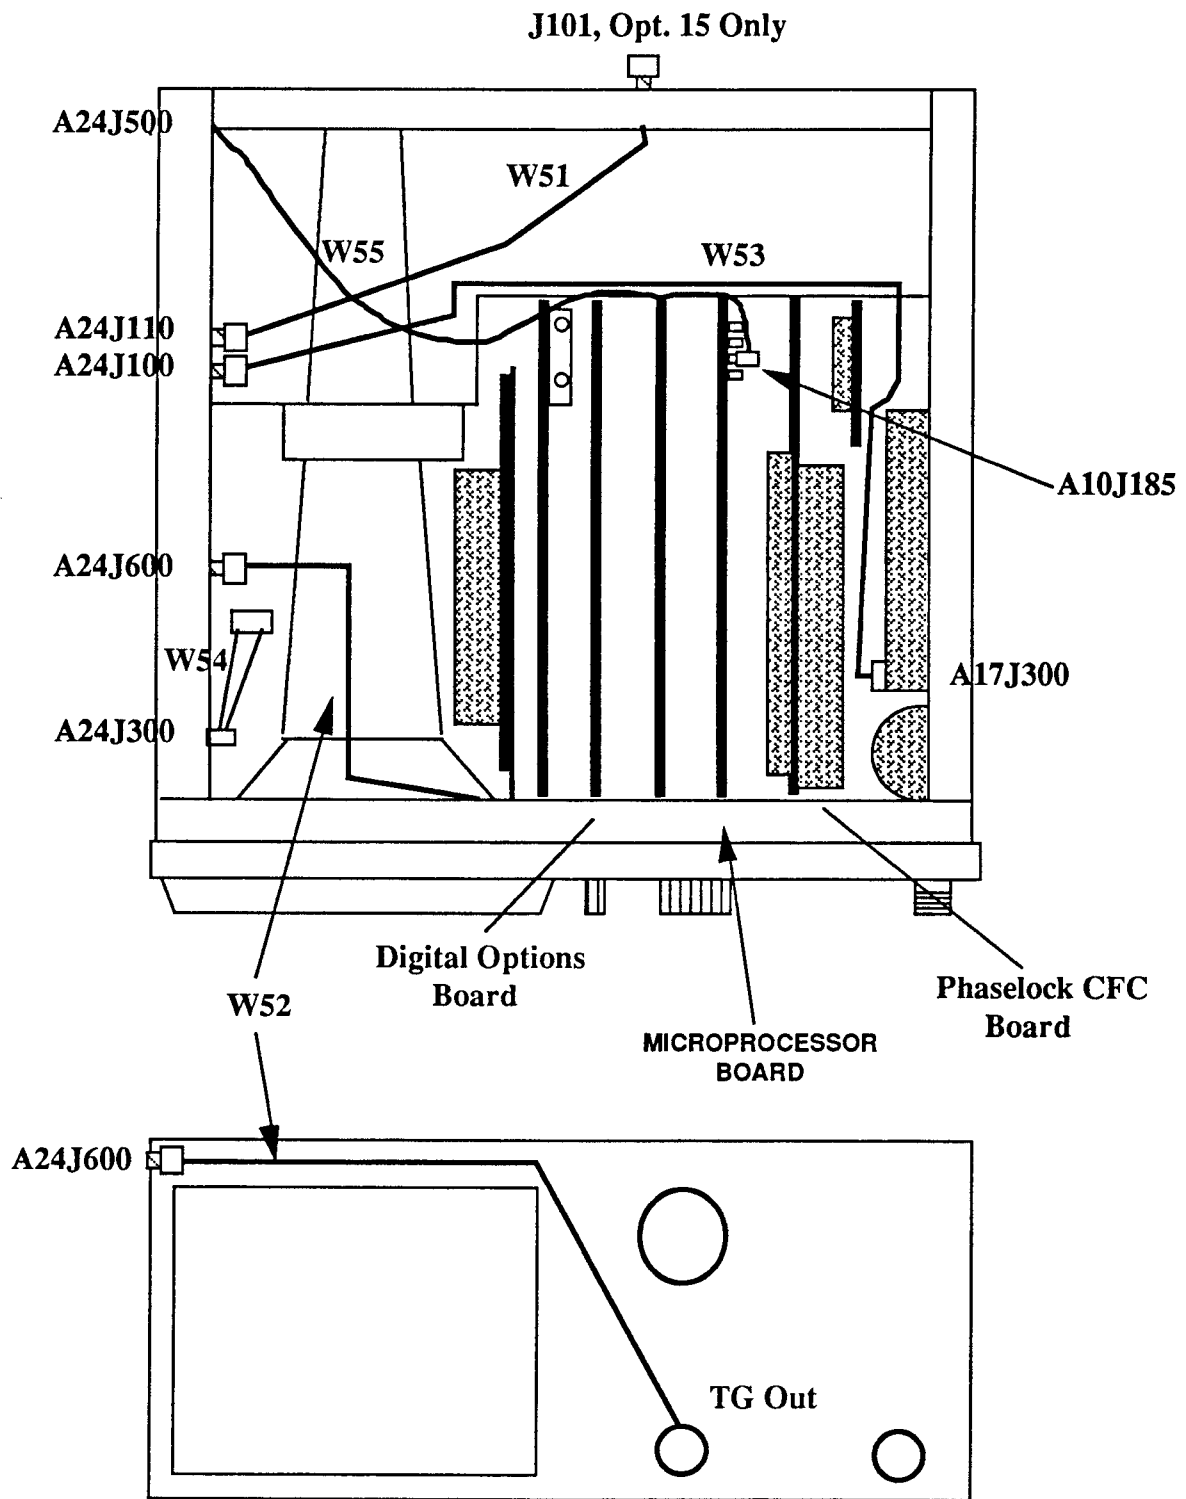

Figure 7.
- (f) Connect W54, 174-1818-00 to connector A24J300 on the Tracking Generator. See Figure 7.
- (h) Using Figure 7, route cable W53, 174-2084-00 through the round hole located at the bottom of the rear card cage bracket. The cable can be bent to aid installation, but care must be taken to ensure the semi-rigid cable is not kinked or broken.
- (i) Connect W53 to A17J300 on the 1st LO Buffer Amp (A17) and A24J100 on the Tracking Generator (A24). See Figure 7.
- (q) Install cable W52, 174-2083-00 as shown in Figure 7. The N connector may be removed from the cable and installed in the front panel first. Care must be taken that the center conductor is not damaged when the cable is reinserted into the N connector and that the cable is fully tightened into the N connector. Connect the other end of W52 to A24J600 on the Tracking Generator module.
- (t) If the instrument has Option 15 (1405 Interface) install cable W51, 174-2077-00 as shown in Figure 7. Connect one end to A24J110 on the Tracking Generator and the other end to the rear panel connector J101.
- (a) Remove the Digital Options board (if installed) and the Microprocessor board. See figure 7.